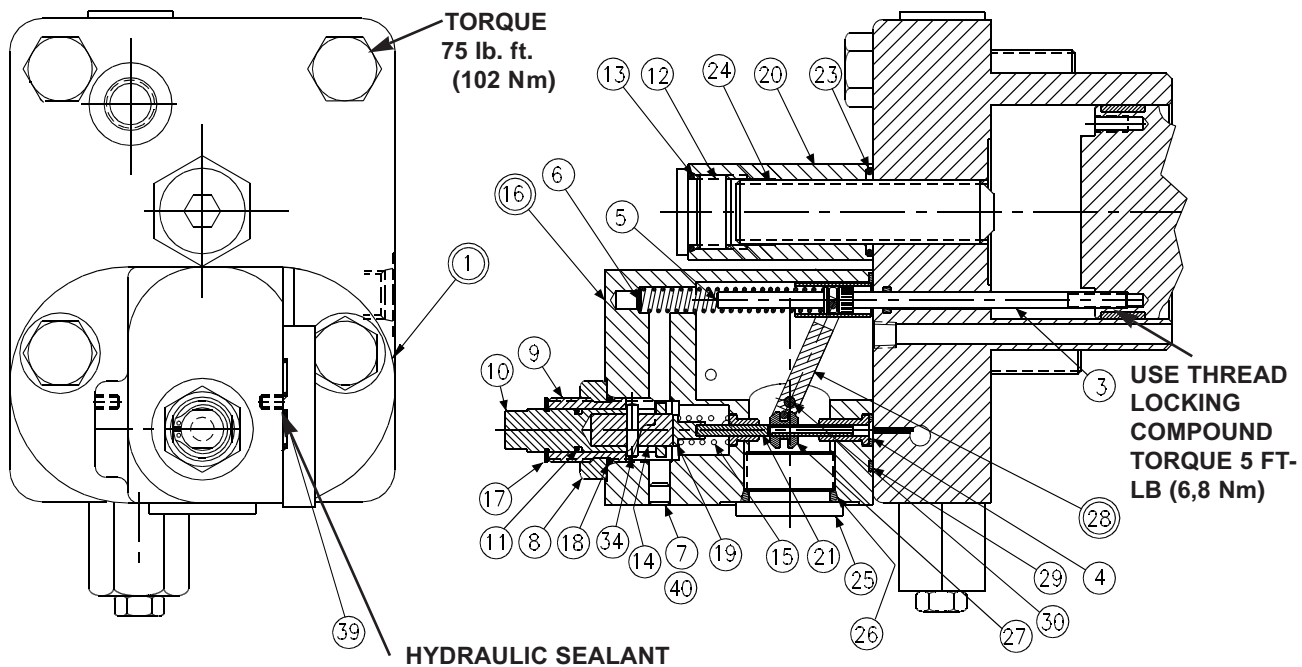

FIGURE 15
**PARTS LIST FOR FIGURE 15
1. See Figure 15. Remove 2 screws holding body (16) to cap assembly (1).
2. Remove all parts from body (16) except pin (30) and arm assembly (28). It is not necessary to remove these parts unless broken or worn. Examine parts for wear or damage.
3. Remove screw (3). Examine head for excessive wear, and body for smooth sealing surface with O-ring.
2. Install spool (4) into bore as shown. Install spring (8) over end of spool.
3. Install plug with stop (14) and O-ring (13) into plug (3).
4. Install O-rings (7) and (16) on plug (3). Install plugs (3) and (9) into body (1).
5. Install orifices (20) and (21) and plugs (10). Torque plugs. Install O-ring (5) in cap.
8. See Figure 15. Apply thread locking compound on threads of screw (3), lubricate the shank, thread through the cap into the control piston, and torque to 5 lb. ft. (6,78 N m).
9. Install minimum stop screw (24) and turn clockwise to stroke pump to full stroke. Measure height from control cap to top of screw (3). With control piston at full stroke, dimension must be .67 +/- .03 in. (16,9 +/- 0,76 mm). Back out minimum stop screw (24) till there is no contact with control piston.
10. Press dowel (30) into body (16), through the link (28), to 1/4 in. (6.35 mm) below surface. Apply hydraulic sealant to threads of screws (39) and install over dowel (30).
11. Press spool (21) into retainer (19). Caution: do not use excessive force.
12. While sleeve (27) is engaged into dowel on link (28), slide above spool assembly with spring (15) into bore of body (16), and through sleeve (27). Spool (21) must move freely and easily at all positions of the link (28).
13. Press dowel (34) through slide pin (14), while inside shaft (10). Dowel (34) must evenly extend from both sides of slide pin (14).